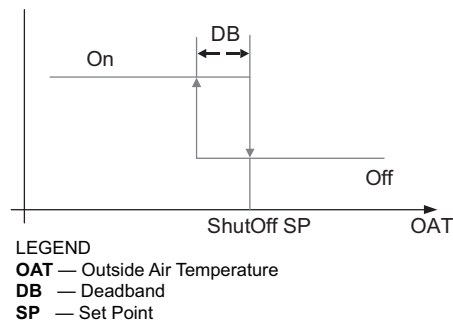

Fig. 61 — Hysteresis Settings
Hysteresis setting (DB) defaults to 2°F (–16.6°C). See Fig. 61.